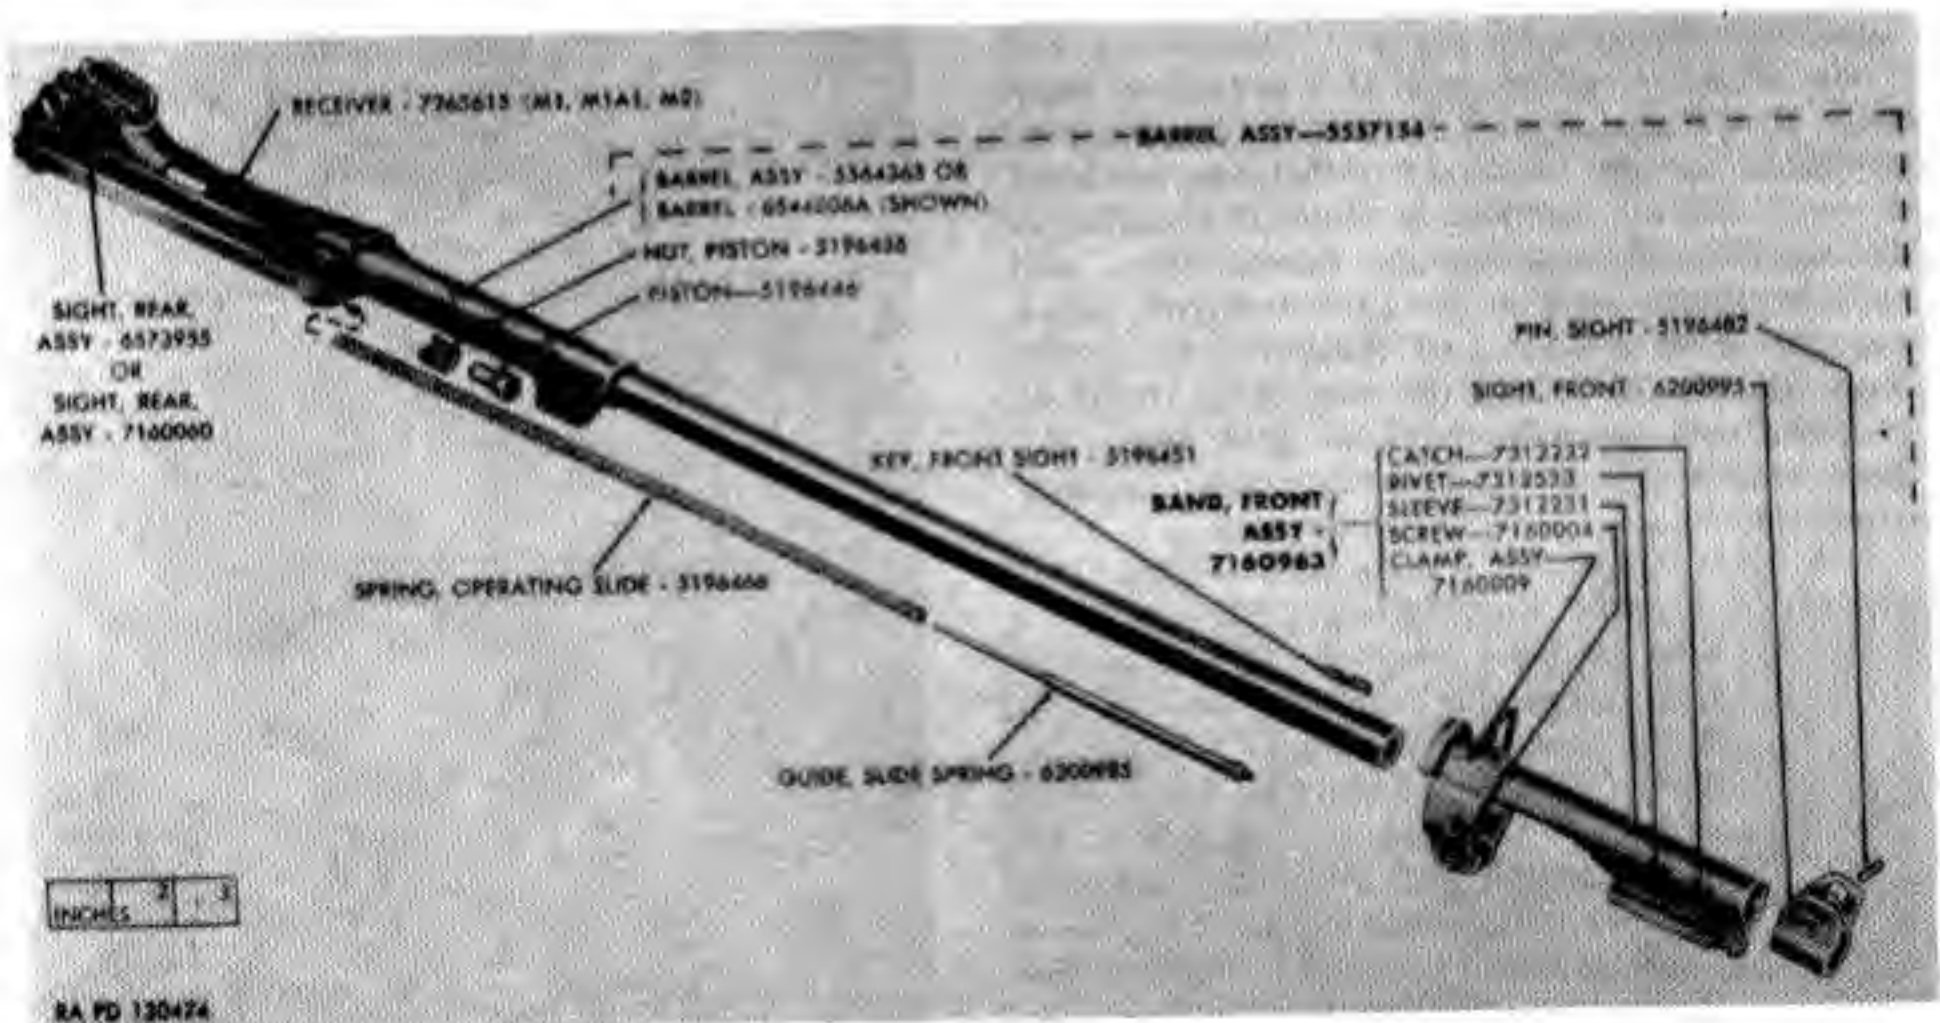

Figure 74. Barrel and receiver group M1, M1A1, M2 carbines.
a. Receiver (Figs. 74 and 75).
- (1) Inspect operating slide spring well for rust or foreign matter. Visually inspect receiver for break-through of the operating slide spring hole. This break-through occurred in the original manufacture of some receivers because of the drill running out through either the bottom or right-hand exterior surfaces. If the forward end of the break-through is 3 inches or more from the front end of the receiver, it is acceptable; otherwise, it must be rejected (DEPOT MAINTENANCE ONLY). Any sharp or feather edges around this break-through are to be removed.
- (2) Inspect receiver under "black light" (Magnaglo or approved equal) for cracks in the area around the bolt locking slot at the right hand side and at the front and rear trigger housing retaining lugs (DEPOT MAINTENANCE ONLY). Receivers having cracks extending in both directions around a corner must be rejected.